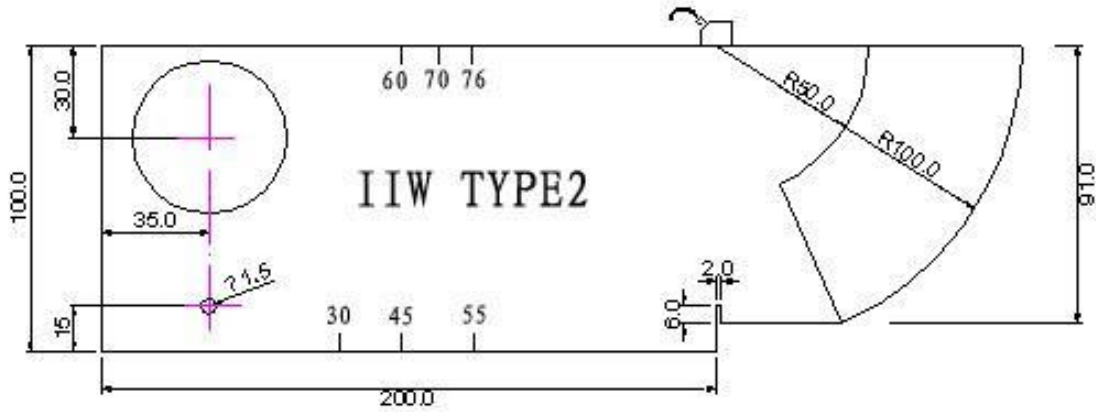

Fig.4.1 50/100 echo
- (1) Select CABT in group Auto C (Automated calibration of transducer) by the < Auto Calibrate > key, by the <Enter > key, you can see 50/100 echo, then put your probe as fig4.1. Try to find the highest echo of 100, then press the <Enter > key twice, the zero point and sound speed of material has been calibrated. then press the <Enter > key, you will see x (front edge)=XXX.XXmm, please read it and input it.